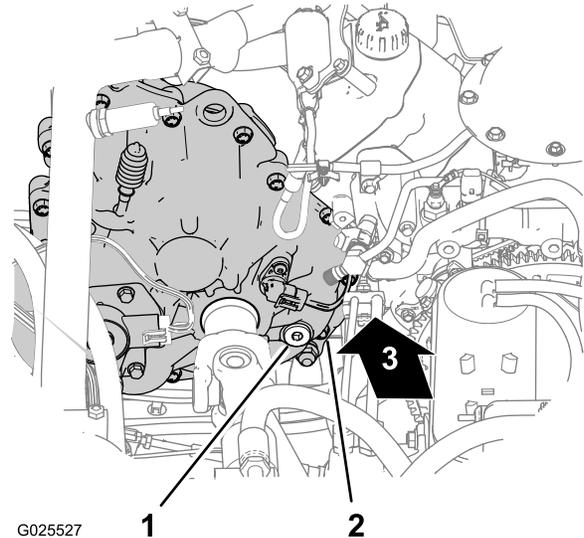
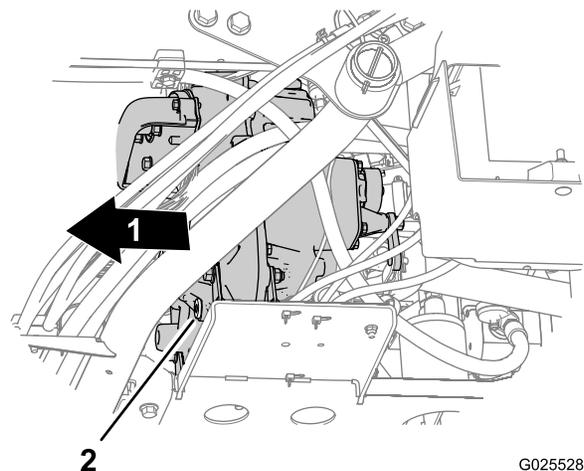

Figure 68
Figure 69
2. Locate the fill plug at the back inboard area of the transmission case and locate the drain plug at the front outboard side of the transmission (Figure 68 and Figure 69).
3. Remove the fill plug from the fill port by rotating the plug counterclockwise and removing it from the transmission (Figure 68).
4. Align a drain pan below the drain plug (Figure 69).
- Remove the drain plug from the drain port by rotating the plug counterclockwise and removing it from the transmission (Figure 69).
- Install the drain plug (Figure 69).
- Add 700 ml (23.7 oz) of Dexron VI transmission fluid into the transmission through the fill port (Figure 68).
- Install the fill plug (Figure 68).